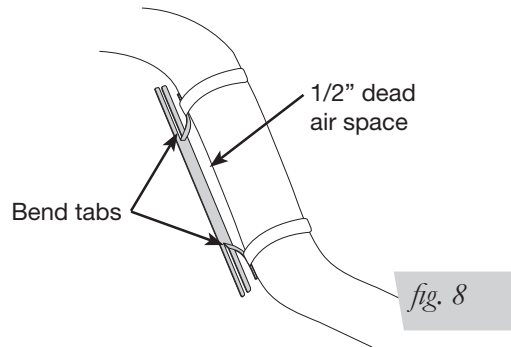

*fig. 7*
When cutting air lines, use a sharp knife or a hose cutter and make clean, square cuts (Fig. 7). Do not use scissors or wire cutters because these tools may deform the air line, causing it to leak around fittings. Do not cut the lines at an angle.
- a. Check the air line connection by deflating the spring and removing the line by pulling the collar against the fitting and pulling firmly on the air line. Trim 1" off the end of the air line. Be sure the cut is clean and square (see Fig. 7). Reinsert the air line into the push-to-connect fitting.